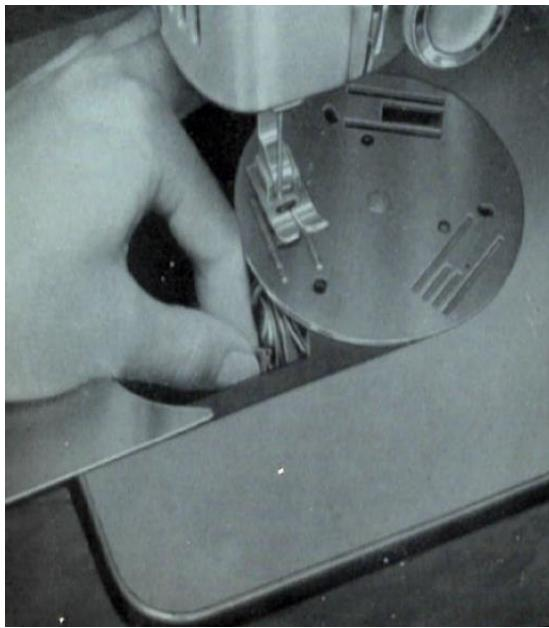

Figure 11
- Lift the latch of bobbin case (Figure 11) with thumb and forefinger of the left hand and remove bobbin case by pulling it towards the left and out of the machine.